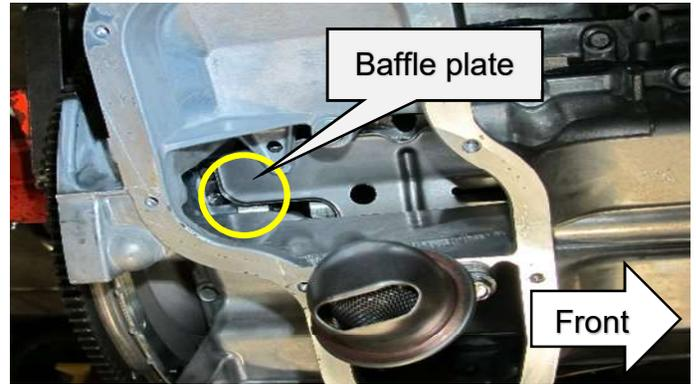

Figure 10
- Locate baffle plate (Figure 10)